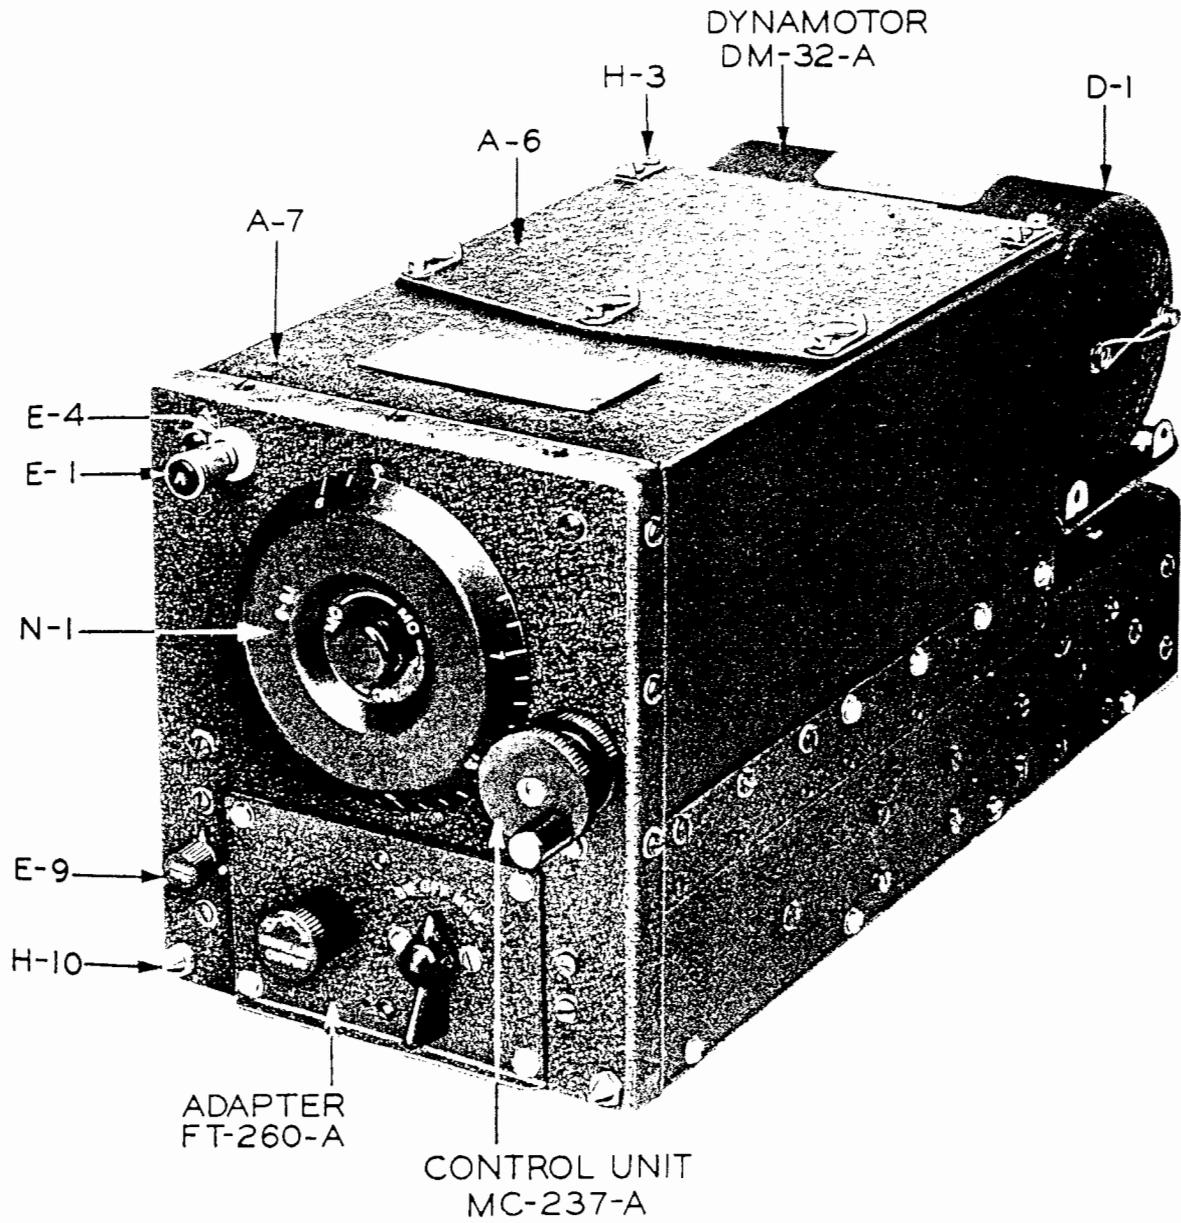

FIGURE 2--TYPICAL RADIO RECEIVER WITH ADAPTER FOR LOCAL CONTROL
(1) Radio Receivers BC-453-A (or -B), BC-454-A (or -B) and BC-455-A (or -B) are basically alike, as may be seen in the schematic wiring diagrams of Figures 37, 38 and 39 and each has the same complement of tubes performing identical functions. Any one of these receivers may be installed on Rack FT-233-A, any two on Rack FT-277-A or all three on Rack FT-220-A. Rack FT-264- ** provides for the installation of four receivers. Figure 26 is a schematic diagram of the receiving equipment of Radio Set SCR-274-N, including only Radio Receiver BC-455-B, Adapters FT-230-A and FT-260-A, Dynamotor DM-32-A, Rack FT-220-A and a cord for attachment to the primary source. The schematic circuit diagrams of Radio Receivers BC-453-B and BC-454-B (with adapters and dynamotors) were not included on this diagram because all circuits connecting with the rack are identical in all three units. For completeness, however, Figures 37, 38 and 39 show the schematic circuits and the practical wiring diagrams of the three receivers. Photographs of a typical receiver may be seen in Figures 2, 3 and 4.
(2) The radio frequency (r-f) part of these radio receivers consists of the following circuits and vacuum tubes, starting at the antenna: a tuned antenna input circuit, an r-f amplifier tube V-3 (Tube VT-131), a tuned r-f amplifier circuit, a mixer tube V-4 (Tube VT-132), and an r-f oscillator circuit. The antenna, the r-f amplifier and the r-f oscillator circuits are tuned by equal sections of a three-section gang capacitor C-4 (A, B, C). The plate current of mixer tube V-4 contains a frequency component which is equal to
* See Paragraph 14a(11) for differences between Radio Receivers BC-453-A and BC-453-B, etc.